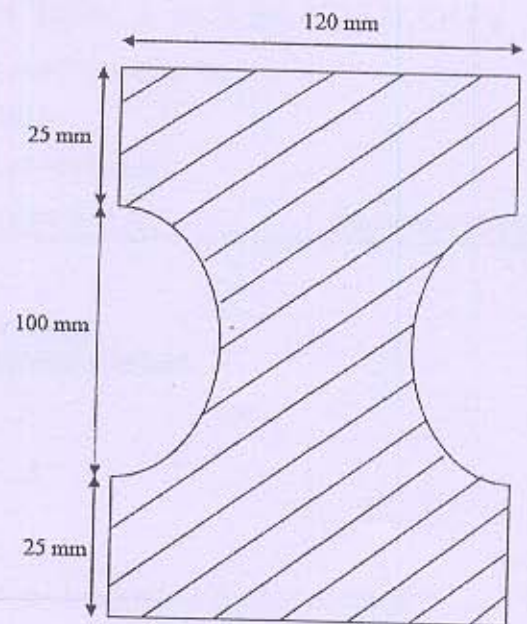

Figure 8
- (b) **Figure 8** shows the cross-section of a cast iron beam. Determine the moment of inertia of the section about vertical axes (I_{yy}) passing through the centroid of the section. [05]